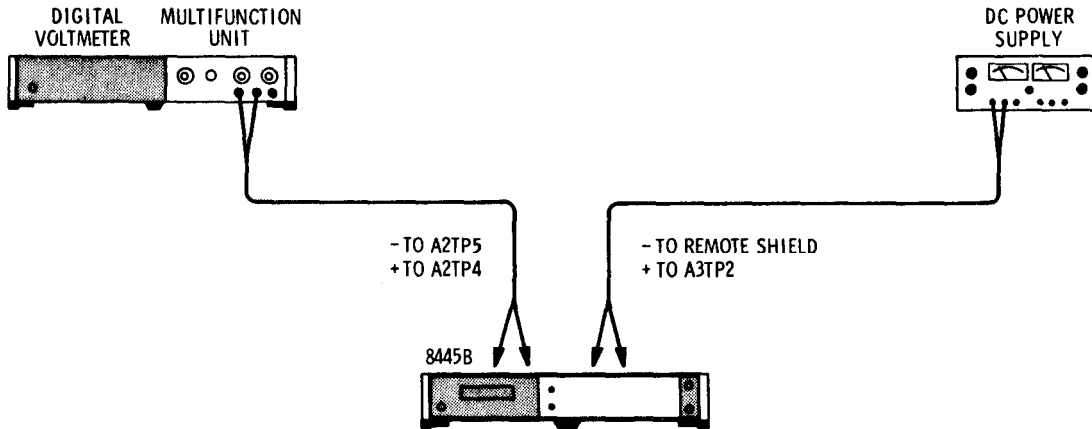

Figure 7-1. Remote Amplifier Adjustment Test Setup (Figure 5-3) (P/O CHANGE C)
1. With test setup as indicated in Figure 7-1, apply power to Preselector and allow at least 30 minutes for equipment to stabilize.